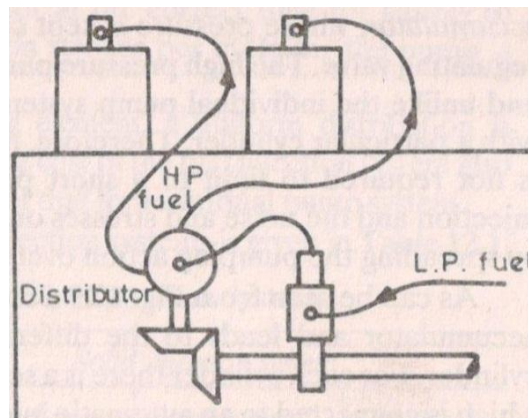

Fig. 3. Individual pump and injector or jerk pump system
In summary, adjustments in valve timing (usually achieved by camshaft phasing) affect the raw emissions, engine torque/power, and idle stability. However, researchers have shown benefits in tailoring valve lift profile, primarily to achieve higher efficiency and power, although emission benefits were also seen. Combination of adjustments in valve timing and changes in valve lift are being used to influence both emission levels and engine efficiency and, hence, fuel economy. Finally, potential of SI engine load control is being considered through variable lift designs. Research has shown that improvements in fuel economy and emission can be achieved through an optimized combination of variable valve timing and lift, see Fig. 3. To conclude, the adjustment of the valve timing in spark-ignited (SI) engines is dictated by a set of conflicting targets and goals. These goals cannot be achieved with fixed valve timing. Systems that provide variable timing and lift have recently found widespread use in engine design.